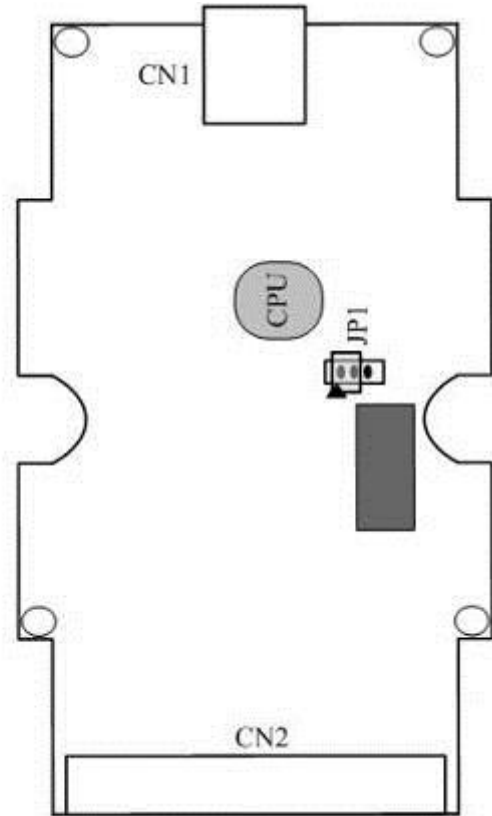

Figure 2-8: Firmware Updating
- (1) Set the jumper (JP1) to the firmware updating position as Figure 2-8 and reboot I-7567. Then I-7567 will work in the “Firmware Update Mode”. In this mode, users can update the firmware of I-7567 module via USB and the I-7567 will become a “USB Mass Storage” device shown as Figure 2-9.